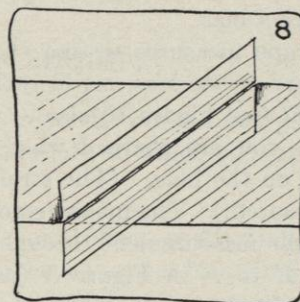

FIG. 8.
- d. Open the joined strips so that they lie flat and in a straight line. Open the two parts of the seam and press flat with your thumb nail (see Figure 8).